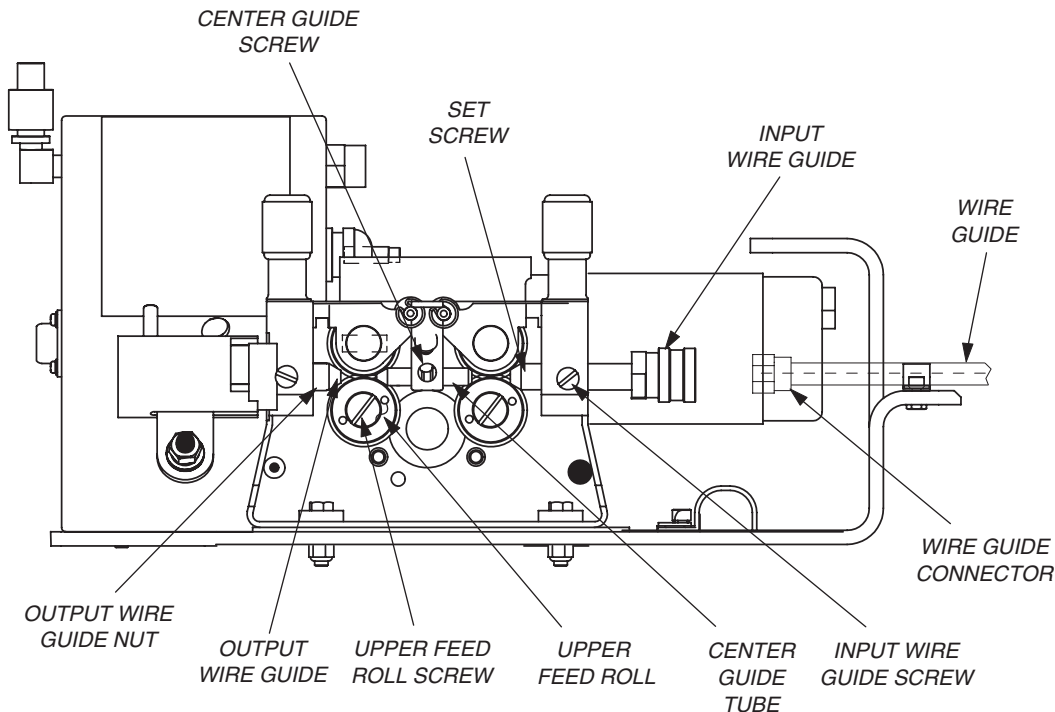

Figure 10 Replacing the Center Guide Tube/Output Wire Feeder Guide
4. Using a 1.5 mm Allen wrench, loosen the set screw (see Figure 10) on the input wirefeeder guide.